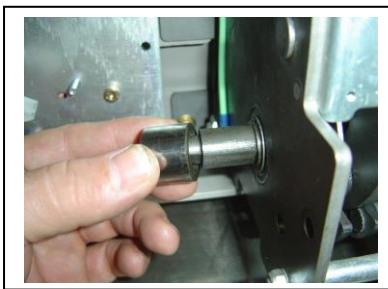

Figure 2. Assembly of sleeve
5. Slide the sleeve (coupling bush) on the camshaft as shown in fig 2.